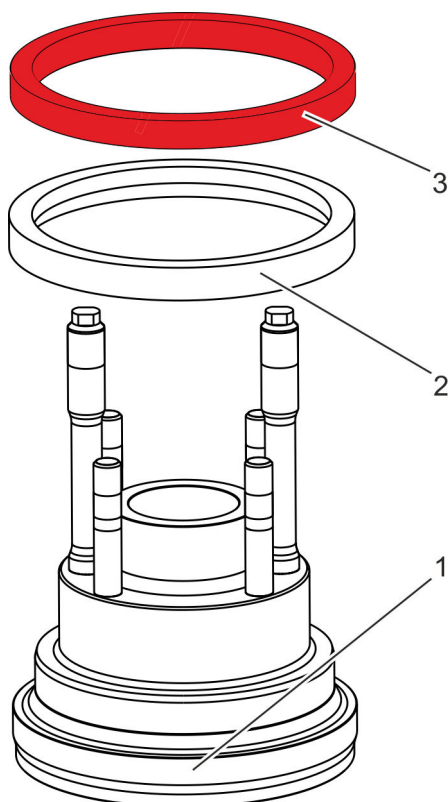

Fig. 32: Removing the support ring and gasket ring
11. Lift the support ring upwards (Fig. 32/3) off of the cover (Fig. 32/1).
12. Lift the gasket ring upwards (Fig. 32/2) off of the cover (Fig. 32/1).